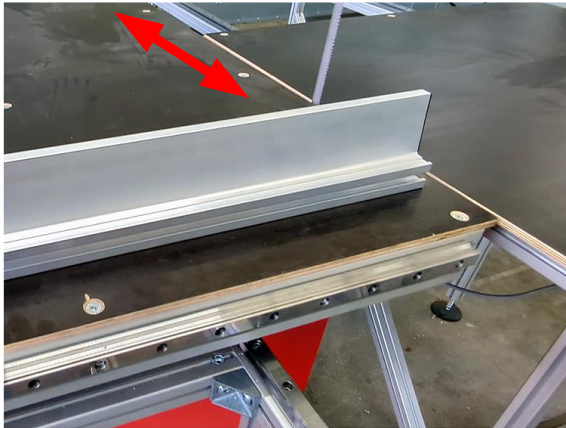

Figure 16: Check alignment over entire length
1. Check that the sliding table runs parallel to the saw blade over the entire travel distance by sliding it back and forth several times (see arrow in ⇒ Figure 16).